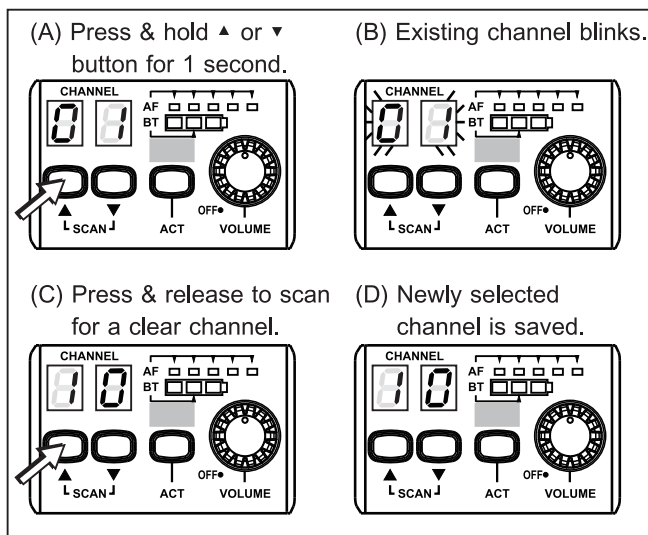

Fig. 2
1. Scan Automatically for a Non-interference Receiver Channel: Press and hold up or down SCAN button ④ to perform a channel scan. Existing channel ⑤ blinks to denote it is ready to accept parameter changes. During blinking, press and release SCAN button to scan and stop for an open channel. This new channel is now saved. If SCAN button is not pressed within six blinks, it stops blinking and reverts back to the existing channel, Fig. 2.